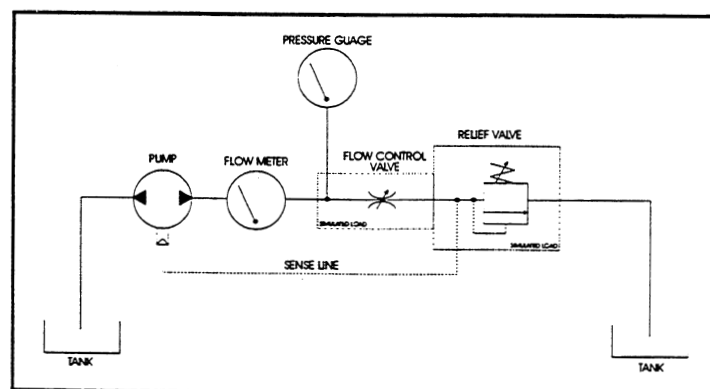

Figure 4-5: Flow Meter Set-Up
**Note:** Follow Pump Set - Up procedure whenever Pump has been replaced, or when testing performance to isolate possible failure. Refer to figure 4-5 for flow meter set - up.